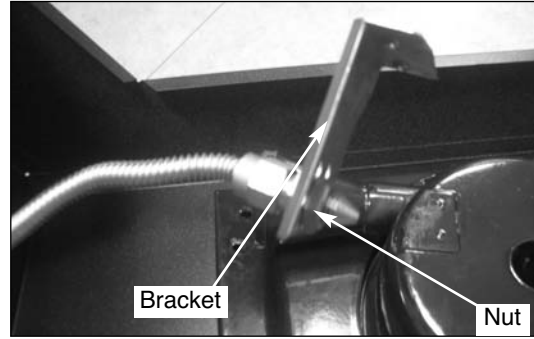

Fig 16
19. Unscrew the nut securing the bracket on the side burner orifice. (See Fig. 16)
21. Use the nut removed in step 19 to secure the bracket onto the side burner orifice. (See Fig. 16)